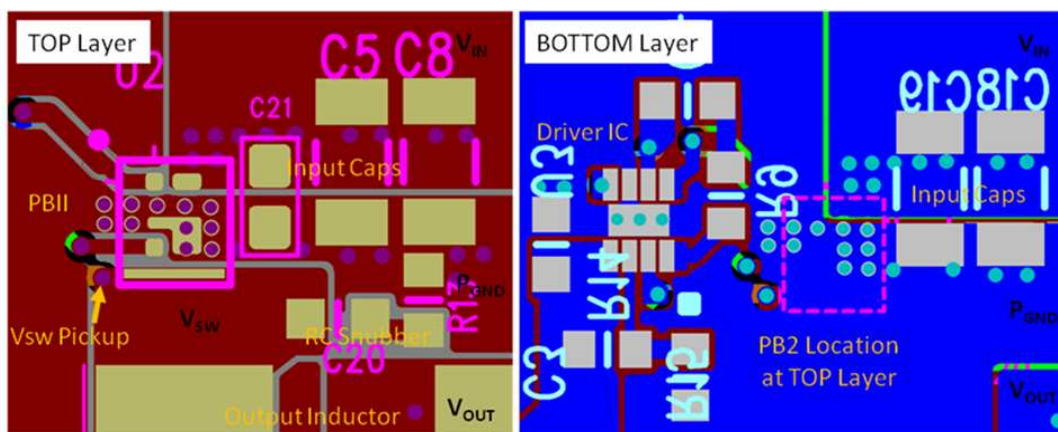

Figure 29. Recommended PCB Layout (Top Down View)
- The placement of the input capacitors relative to VIN and PGND pins of CSD87381P device should have the highest priority during the component placement routine. It is critical to minimize these node lengths. As such, ceramic input capacitors need to be placed as close as possible to the VIN and PGND pins (see Figure 29). The example in Figure 29 uses 1 x 10 nF 0402 25 V and 4 x 10 μ F 1206 25 V ceramic capacitors (TDK part number C3216X5R1C106KT or equivalent). Notice there are ceramic capacitors on both sides of the board with an appropriate amount of vias interconnecting both layers. In terms of priority of placement next to the power stage, C21, C5, C8, C19, and C18 should follow in order.
- The switching node of the output inductor should be placed relatively close to the Power Block II CSD87381P VSW pins. Minimizing the VSW node length between these two components will reduce the PCB conduction losses and actually reduce the switching noise level. See Figure 29. ⁽¹⁾
- Use the smallest drill size allowed in your design. The example in Figure 29 uses vias with a 10 mil drill hole and a 16 mil capture pad.